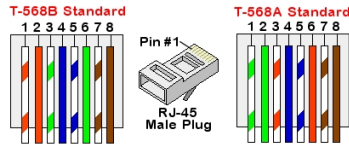

Figure 25: Standard cable wiring
- c. Insert the eight wires into an RJ45 connector, as described in *Figure 25*
8. For the switch/router side, use a pre-crimped cable or use a crimper to prepare an RJ45 communication connector: Insert the eight wires into the RJ45 connector in the same order as above (*Figure 25*).